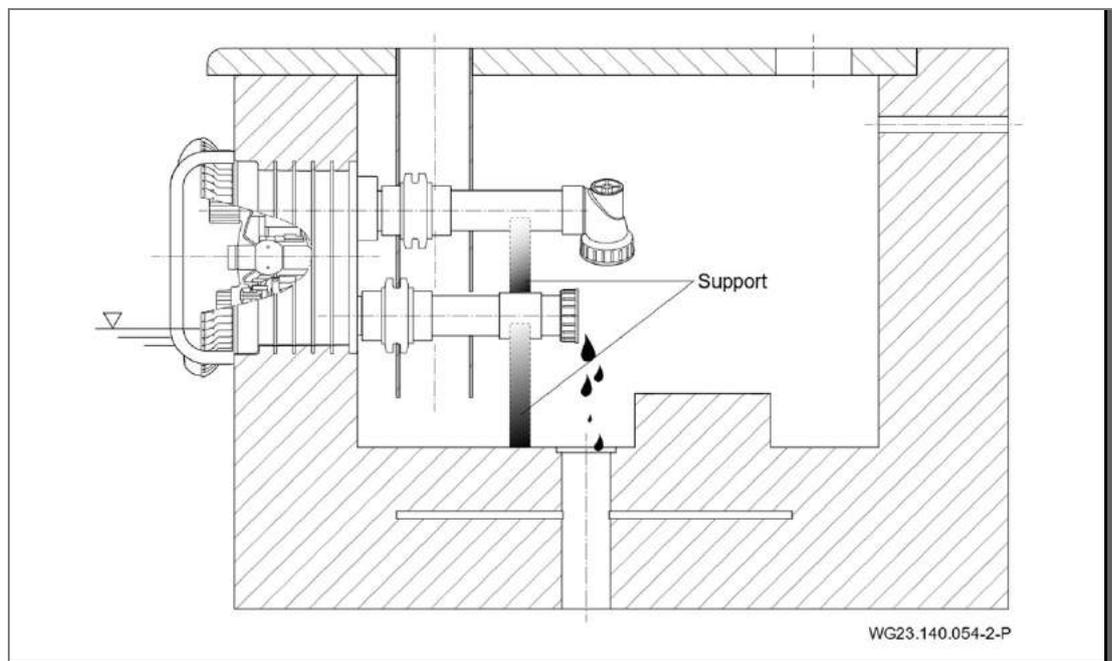

Fig. 27
3. Support the suction and pressure lines to relieve them. See "Fig. 27".